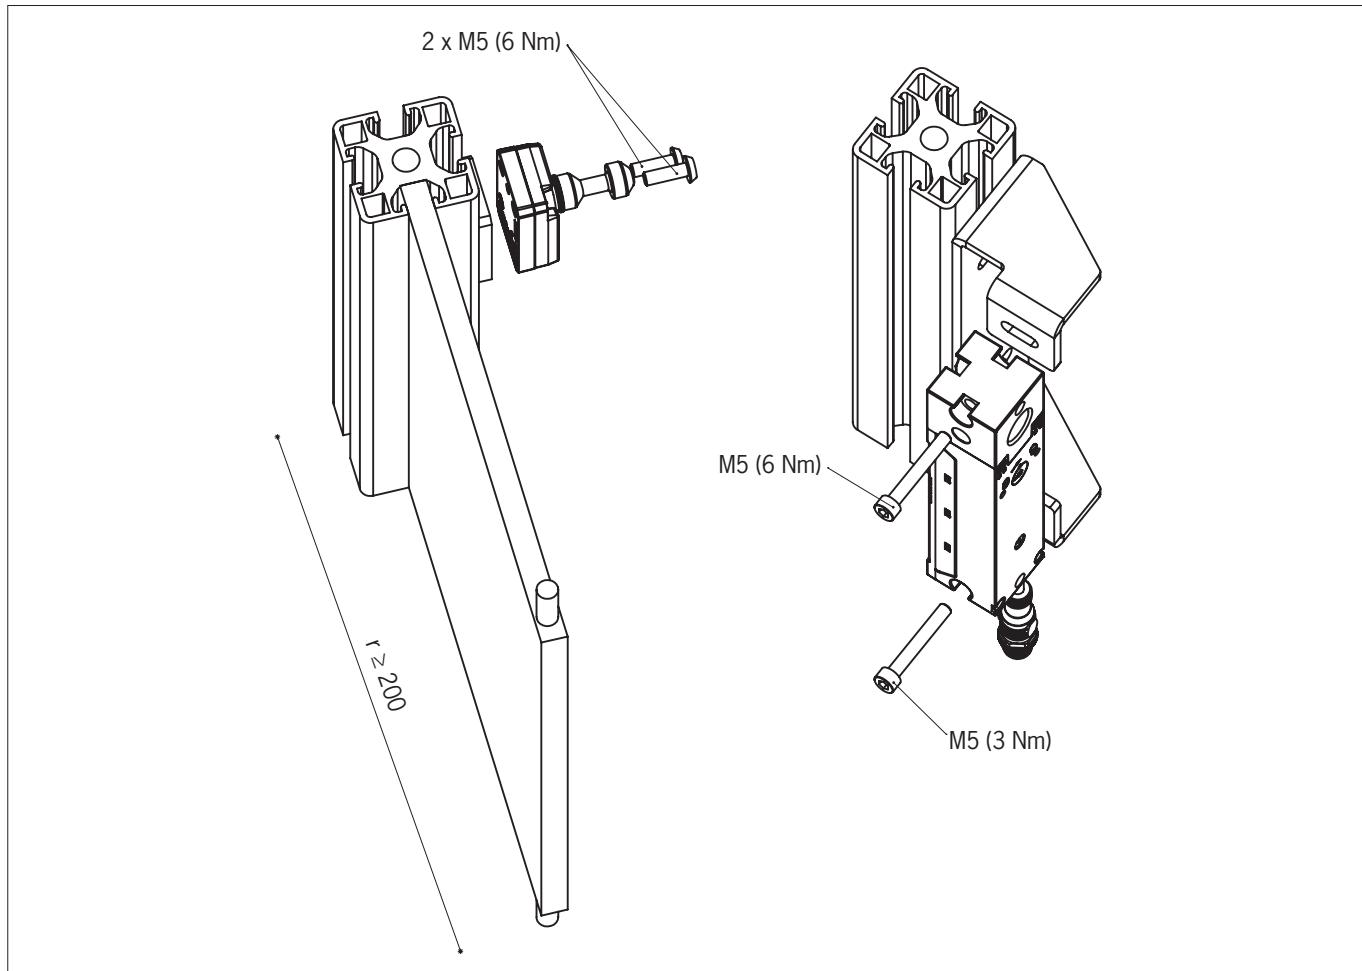

Fig. 3: Installation example
- Observe the tightening torque for fastening the switch and the actuator (see *Fig. 3*):